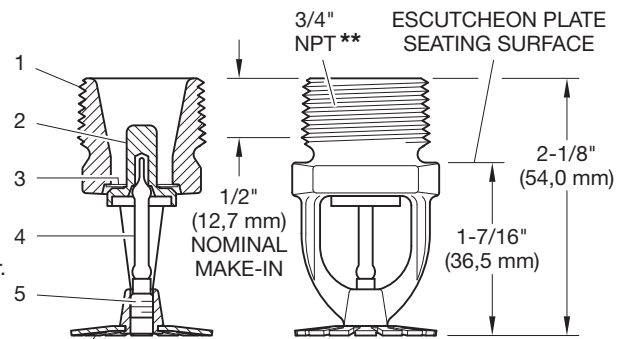

FIGURE 1
Step 3. Wrench tighten pendent sprinklers using only the W-Type 3 (End A) Sprinkler Wrench. Wrench tighten the recessed pendent sprinklers using only the W-Type 23 Sprinkler Wrench. The wrench recess of the applicable sprinkler wrench as shown in Figures 4 and 5 is to be applied to the sprinkler wrench flats as shown in Figure 1.